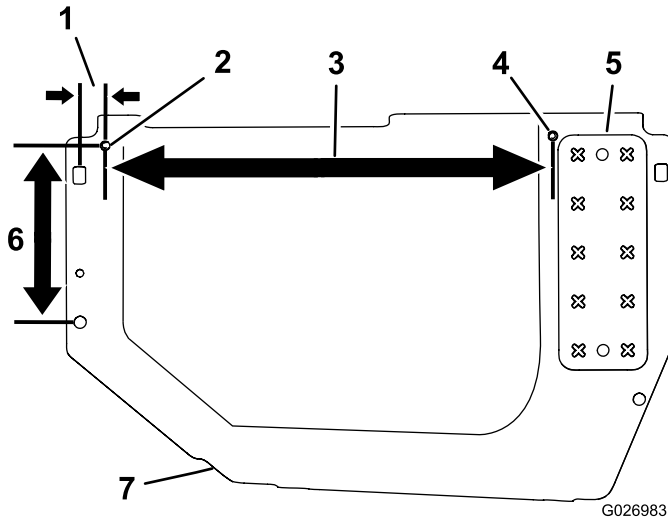
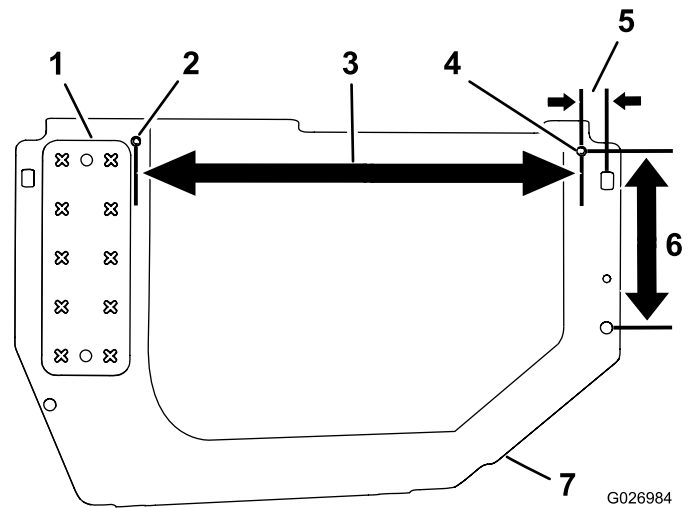

Figure 9
Figure 10
2. Drill 2 holes—8.7 mm (0.344 inch)—in each plastic cover (Figure 9 and Figure 10).
Note: Use Figure 9 and Figure 10 to measure the 8.7 mm (0.344 inch) hole locations on the covers. Align the front hole in each cover with the edge of the step plate.